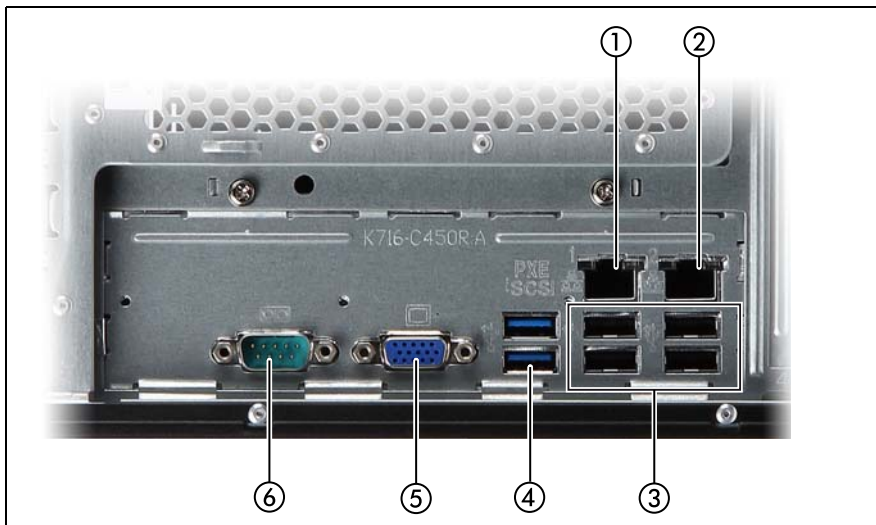

Figure 2: Connector panel on the rear side
- ▶ Connect the monitor to the video connector of the server (see figure figure 2 on page 42).